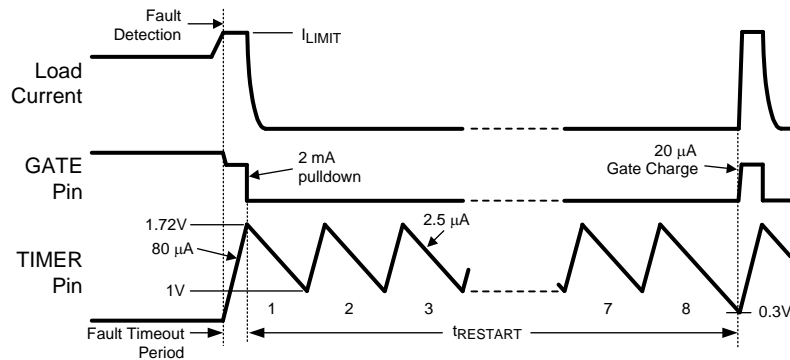

Figure 25. Restart Sequence (LM25061-2)
When the current limit or power limit threshold is reached during turn-on or as a result of a fault condition, the gate-to-source voltage of Q1 is modulated to regulate the load current and power dissipation in Q1. When either limiting function is activated, an 80 μA fault timer current source charges the external capacitor (C_T) at the TIMER pin as shown in Figure 25 (Fault Timeout Period). If the fault condition subsides during the Fault Timeout Period before the TIMER pin reaches 1.72V, the LM25061 returns to the normal operating mode and C_T is discharged by the 2.5 μA current sink. If the TIMER pin reaches 1.72V during the Fault Timeout Period, Q1 is switched off by a 2 mA pull-down current at the GATE pin. The subsequent restart procedure then depends on which version of the LM25061 is in use.
The LM25061-2 provides an automatic restart sequence which consists of the TIMER pin cycling between 1.72V and 1V seven times after the Fault Timeout Period, as shown in Figure 25. The period of each cycle is determined by the 80 μ A charging current, and the 2.5 μ A discharge current, and the value of the capacitor C_T. When the TIMER pin reaches 0.3V during the eighth high-to-low ramp, the 20 μ A current source at the GATE pin turns on Q1. If the fault condition is still present, the Fault Timeout Period and the restart cycle repeat.
C) Restart Timing For the LM25061-2, after the Fault Timeout Period described above, C_T is discharged by the 2.5 μA current sink to 1.0V. The TIMER pin then cycles through seven additional charge/discharge cycles between 1V and 1.72V as shown in Figure 25. The restart time ends when the TIMER pin voltage reaches 0.3V during the final high-to-low ramp. The restart time, after the Fault Timeout Period, is equal to: